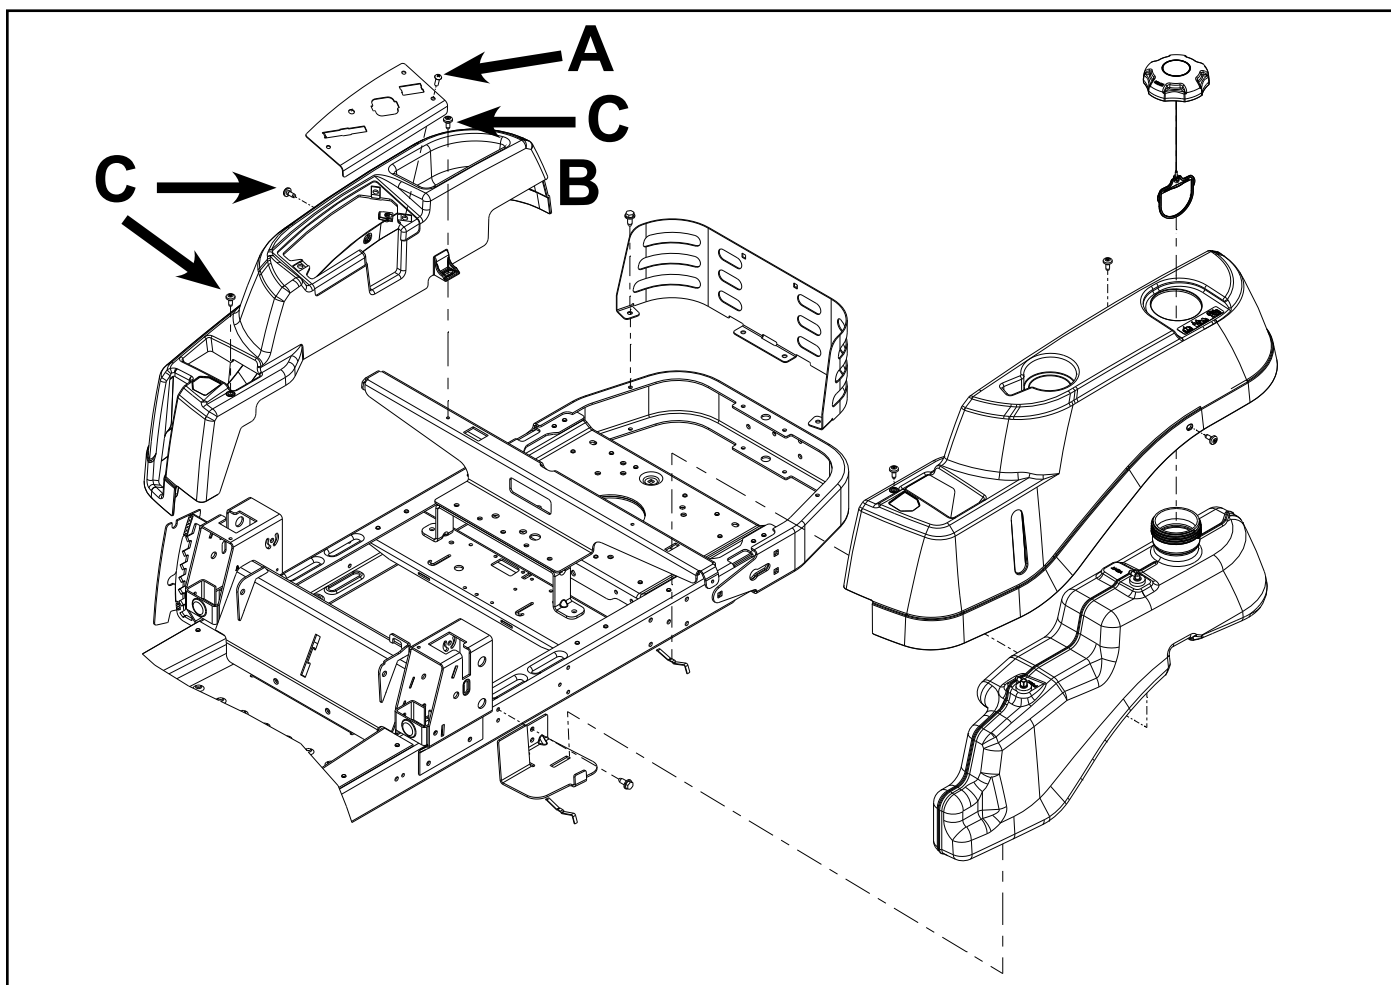

Fig. 010
2. Install the (3) screws (C) that secure the RH fender to frame and torque the (3) screws to specification – 7 ft-lbs. (9 Nm).
3. Position control panel back onto RH fender. Install and sufficiently tighten the (3) screws (A) that secure the control panel to the RH fender (B).
5. Connect battery terminals and lower seat. (Fig. 010)